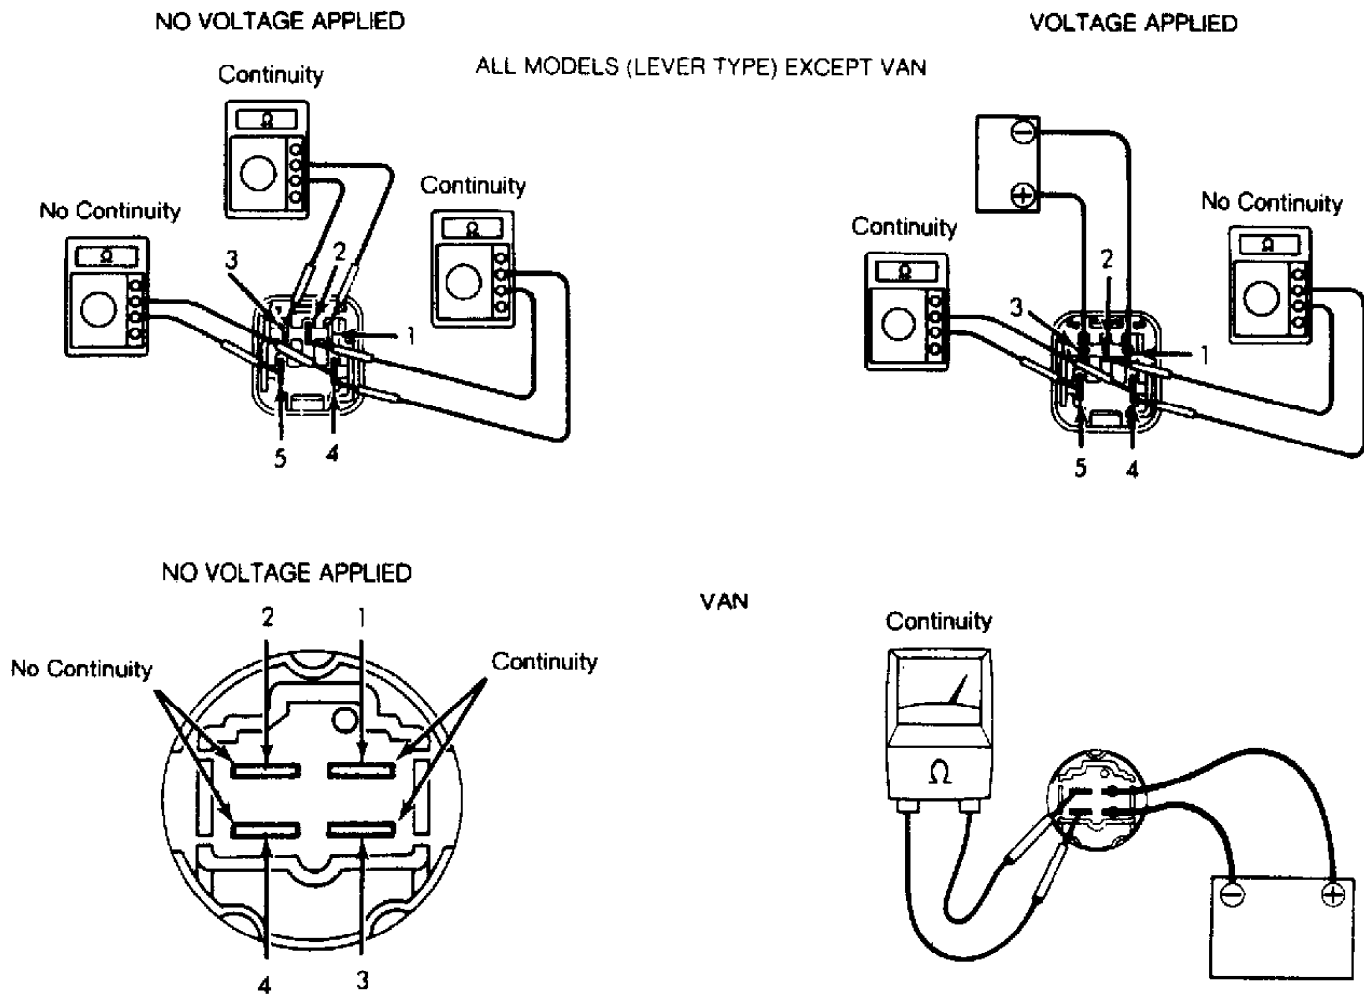

Fig. 6: Testing Heater Relay for Continuity
1) Disconnect battery and check continuity with an ohmmeter. Continuity should exist between terminals No. 1 and 3 and between terminals No. 2 and 4. No continuity should exist between terminals No. 4 and 5. If continuity does, or does not exist where specified, replace relay. See Fig. 6.
2) Apply battery voltage across terminals No. 1 (positive) and 3 (negative) and check continuity. Continuity should exist between terminals No. 4 and 5. No continuity should exist between terminals No. 2 and 4. If continuity does, or does not exist as specified, replace relay. See Fig. 6.